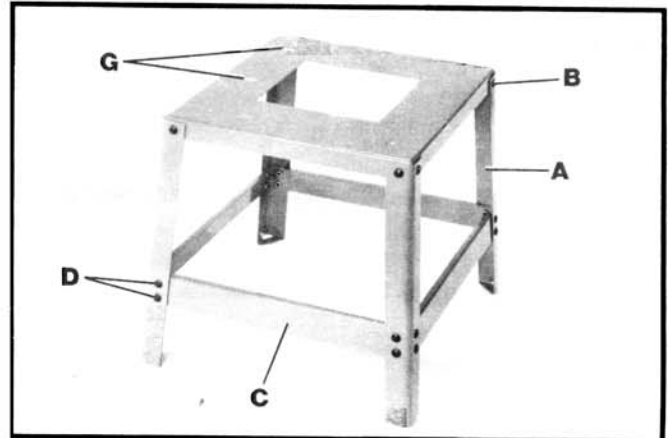
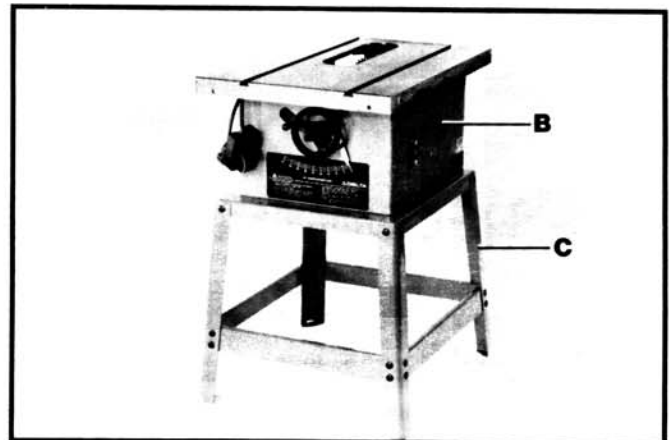
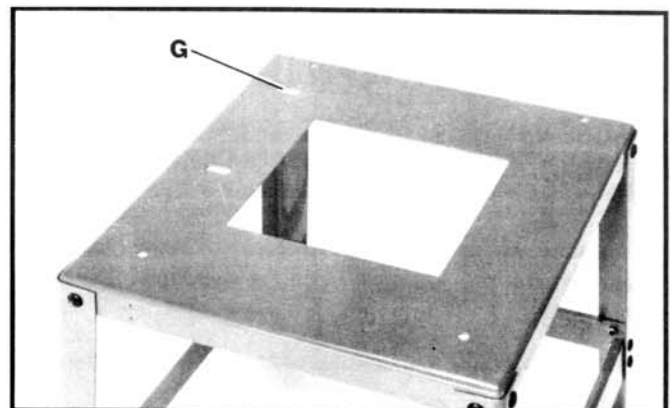

Fig. 2
Fig. 3
Fig. 4
Assemble the stand as shown in Fig. 2, using the 24 carriage bolts, 8 flat washers, 8 lockwashers and 24 hex nuts. **NOTE:** When fastening the legs (A) Fig. 2, to the shelf, use 8 carriage bolts (B), 8 flat washers, 8 lockwashers and 8 hex nuts. When fastening the legs (A) to the four tie bars (C), use 16 carriage bolts (D) and 16 hex nuts. Do not completely tighten the stand hardware at this time.
1. Position saw (B) Fig. 3, on stand (C). **NOTE:** Slotted holes (G) Fig. 2, in stand will be located at the left hand side of the saw when fastening it to the stand as shown in Fig. 3.
2. Align the four mounting holes in the saw (B) Fig. 3, with the four mounting holes in stand (C), and fasten with four hex head screws, flat washers, lockwashers and hex nuts. **IMPORTANT:** Before tightening mounting hardware, make certain the cable tie which fastens the power cord to the inside cabinet ledge is inserted into slotted hole (G) Fig. 4 in stand. **CAUTION: DO NOT REMOVE CABLE TIE.**